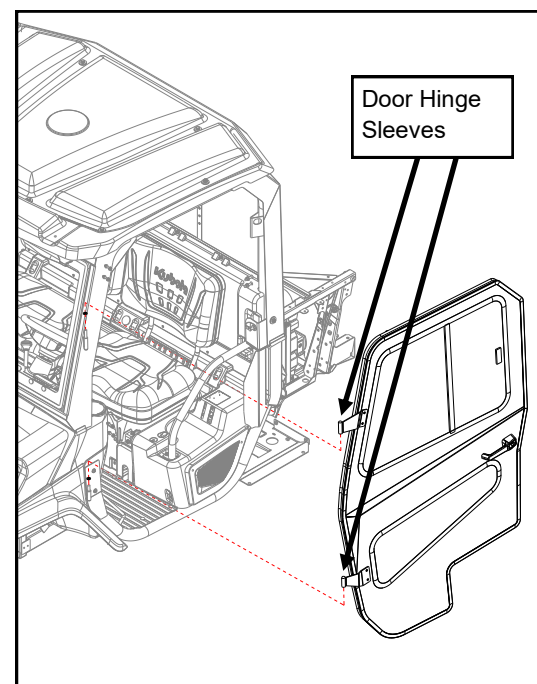

Fig. 17
17. Holding the door perpendicular to the vehicle, lower the door hinge sleeves over hinge pins on vehicle. (see fig. 17)